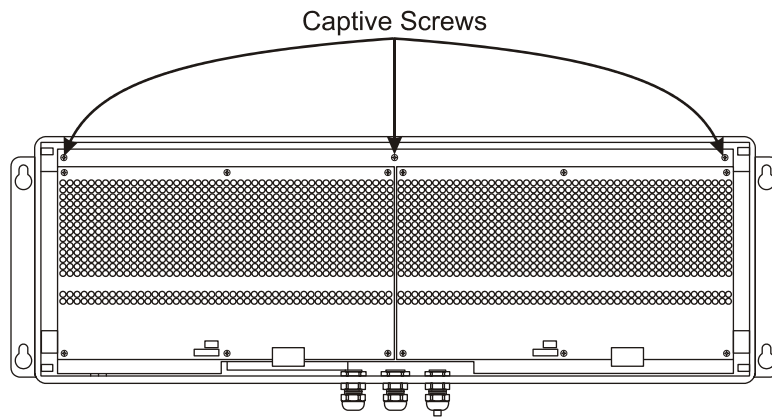

Figure 2.4 Open enclosure
1. Remove the three (3) captive screws holding the electronics plate to the main enclosure. See Figure 2.4.